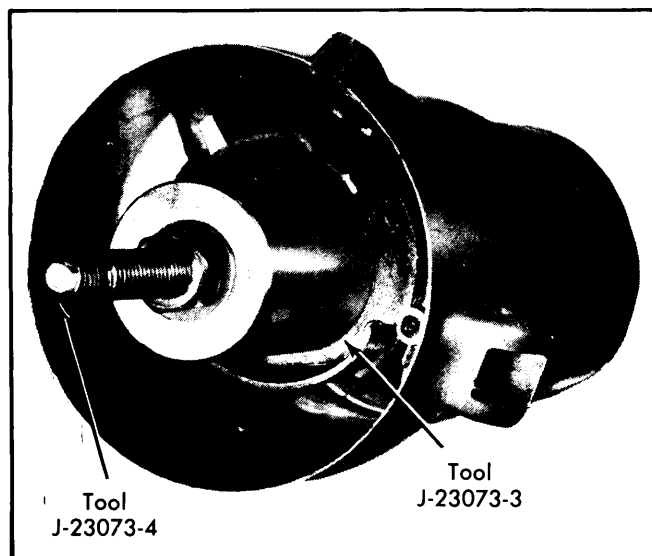

Fig. 14 Pulling Shift Tube into Shift Bowl
3) Tighten tool spring tension nut until snug. Place installer tools (J-23073-3 and J-23073-4) over puller stud. Tighten tool nut (J-23073-2) and pull tube into place in shift bowl. Remove shift tube installer tools. See Fig. 14.